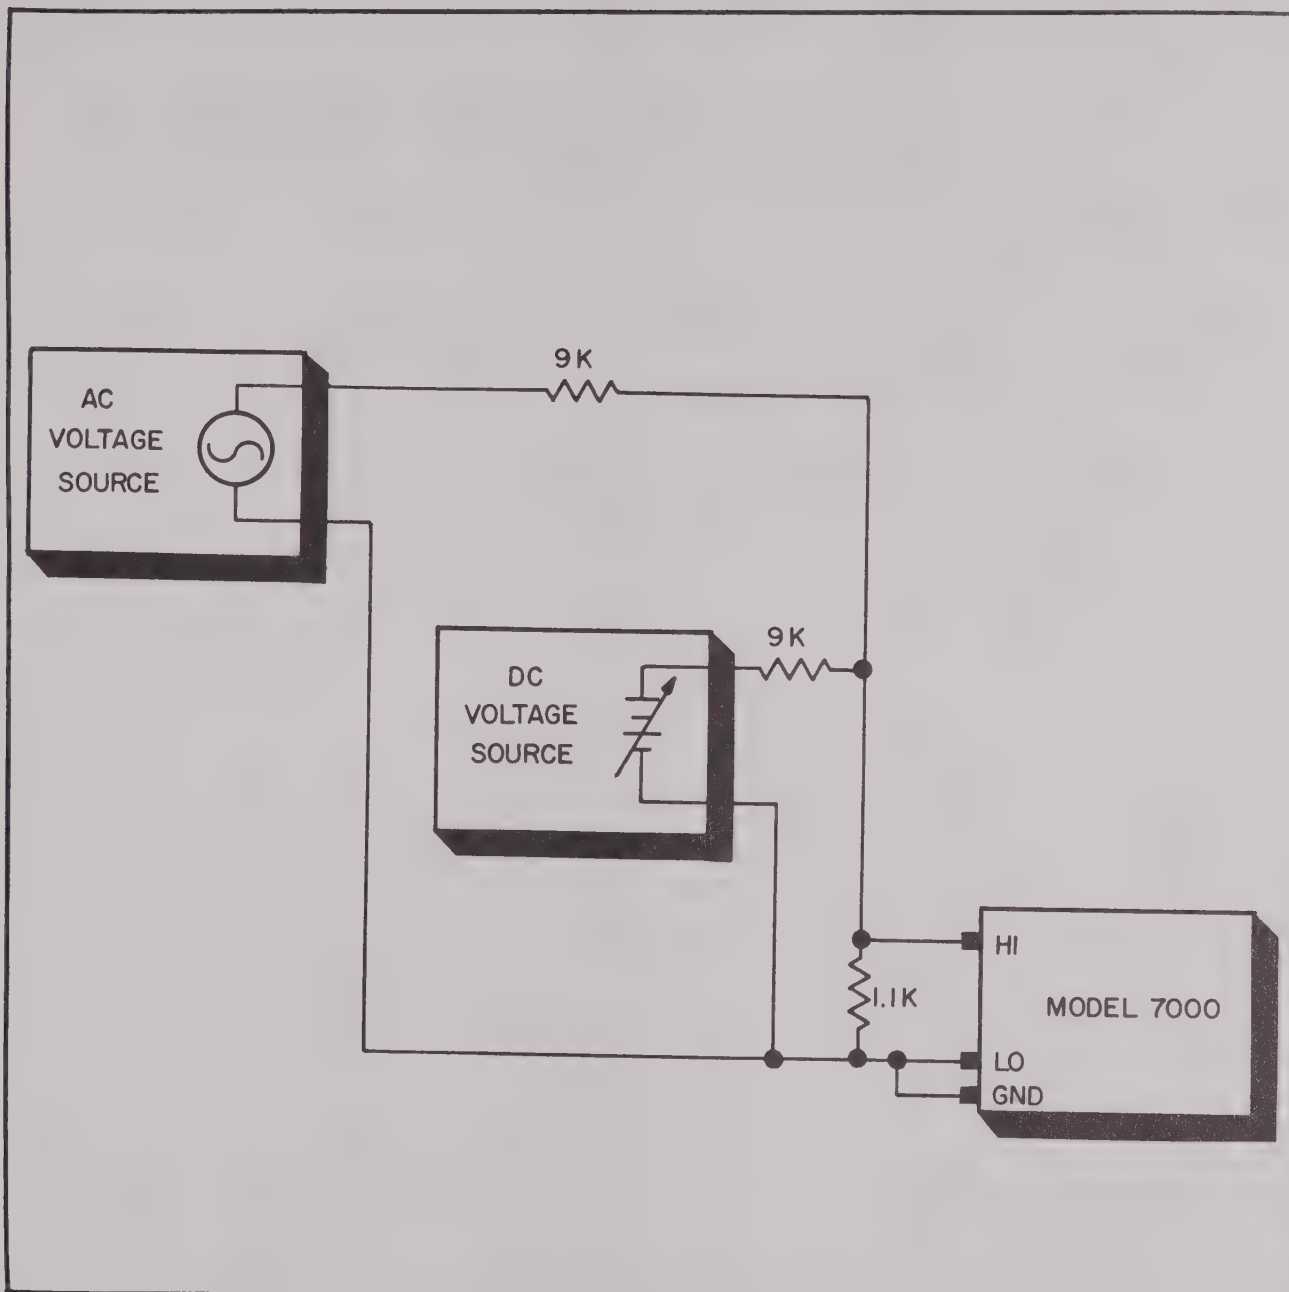

Figure 5-2. Normal Mode Rejection Test Setup
- a. Connect the Model 7000 into the test setup shown in figure 5-2 and make the following initial settings on the Model 7000.